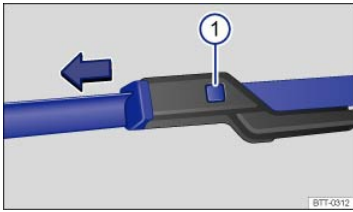

Fig. 195 Changing the windshield wiper blades.
- With one hand, press and hold the release button ⇒ *Fig. 195* ⓘ.